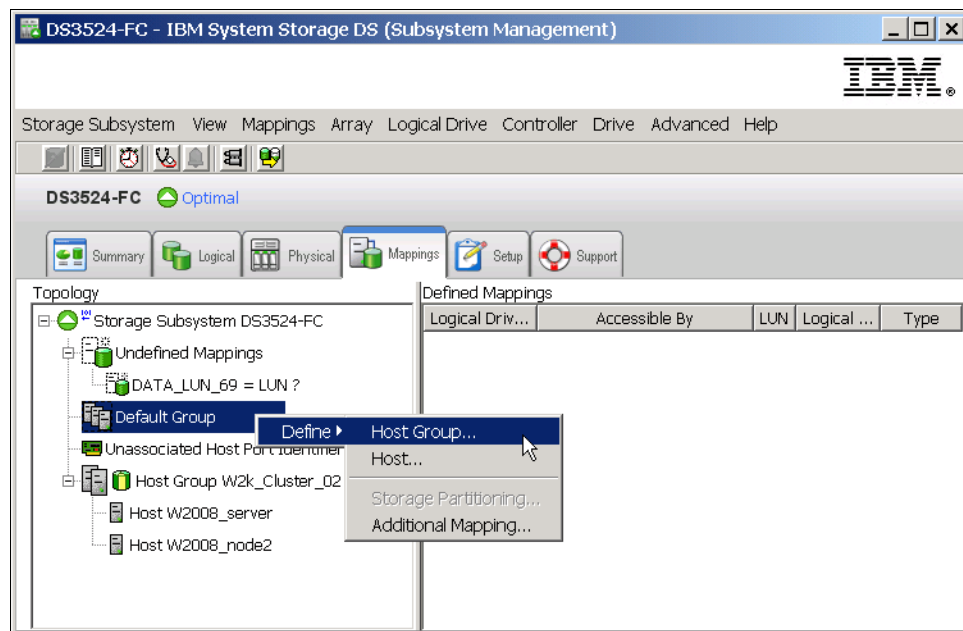

Figure 11-18 Define Host Group menu
1. Right-click Default Group and select **Define** → **Host Group**, as shown in Figure 11-18.